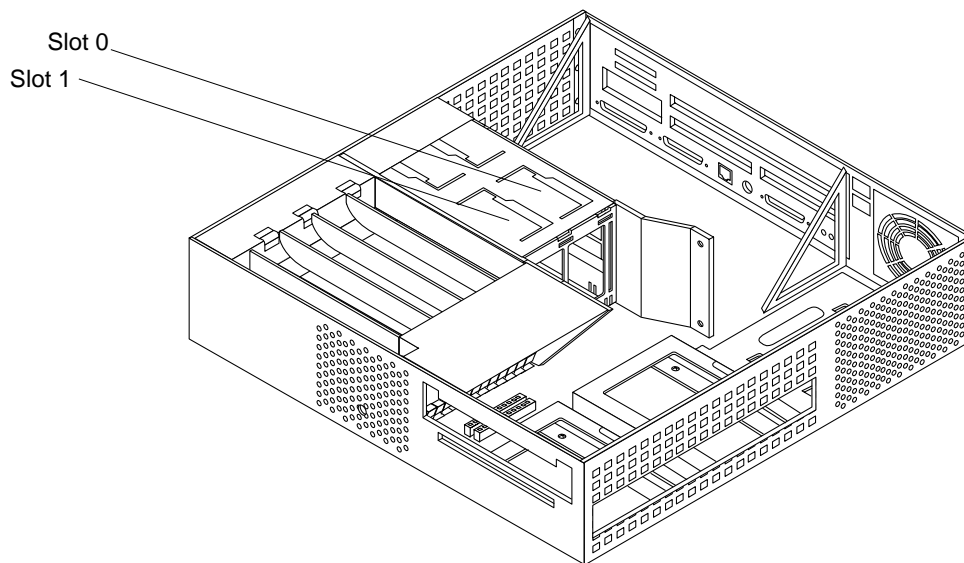

Figure 5-1 Ultra 2 Processor Slot Locations
- 3. Identify the appropriate or available slot (Figure 5-1).**